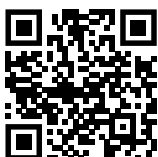

Fig. 143
- Open Liebherr SmartMonitoring Dashboard. (see Fig. 143)